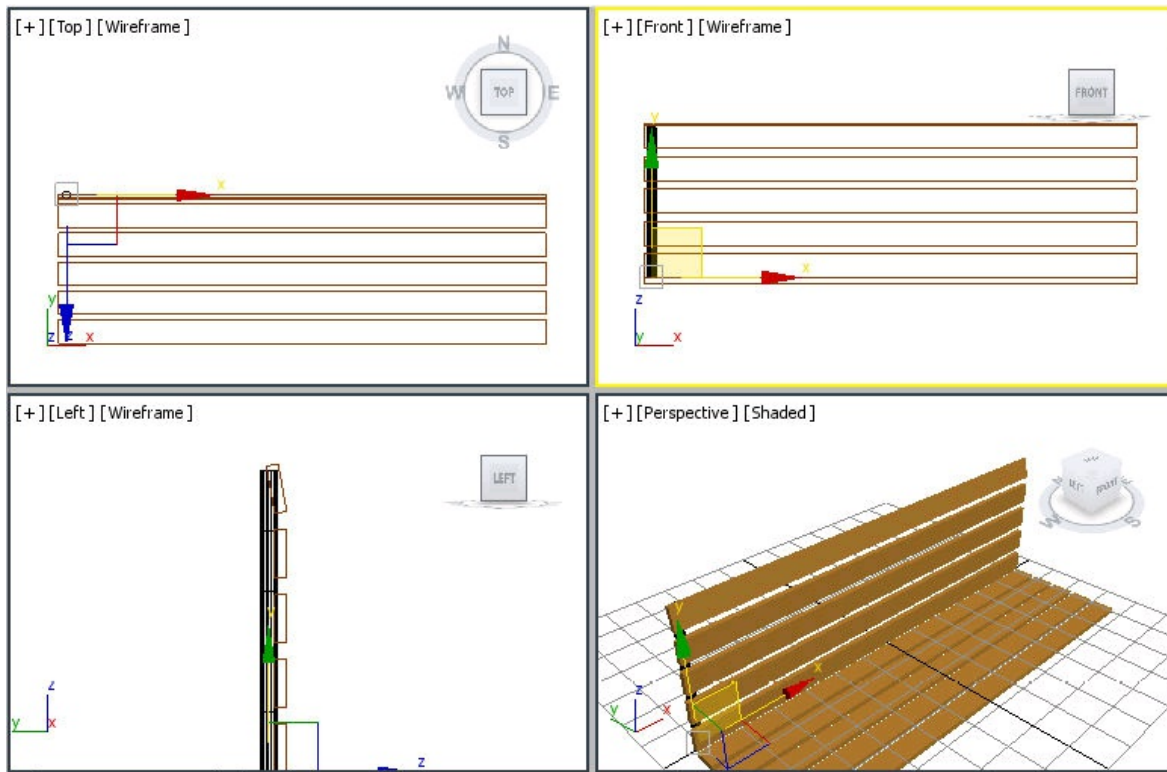

Figure 2-75 The vertical back support001 geometry in viewports
3. Now, choose the **Create** button in the **Keyboard Entry** rollout; a cylinder is created in the viewports, as shown in Figure 2-75.